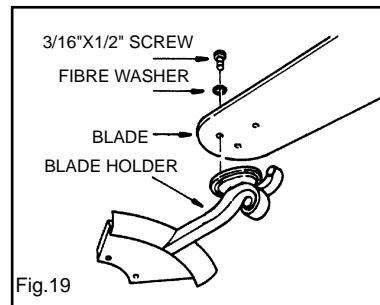

Fig.19
**Step 1.** Attach the fan blades to the blade holders using the screws & washers provided. (Fig 19).